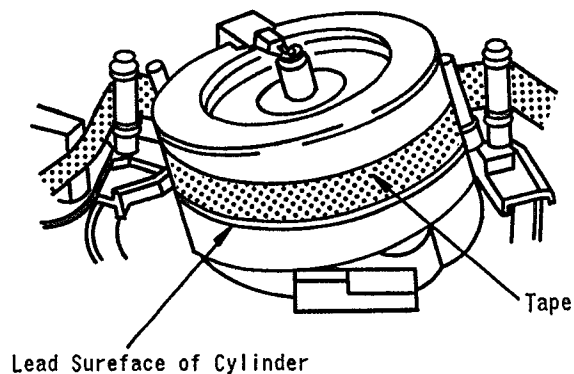

Fig. 5-2
4. Observe the tape transport at the lead surface of the cylinder during the PLAY mode, and confirm that the tape runs smoothly along the lead surface of the cylinder without slipping downward or upward (Refer to Fig. 5-2).